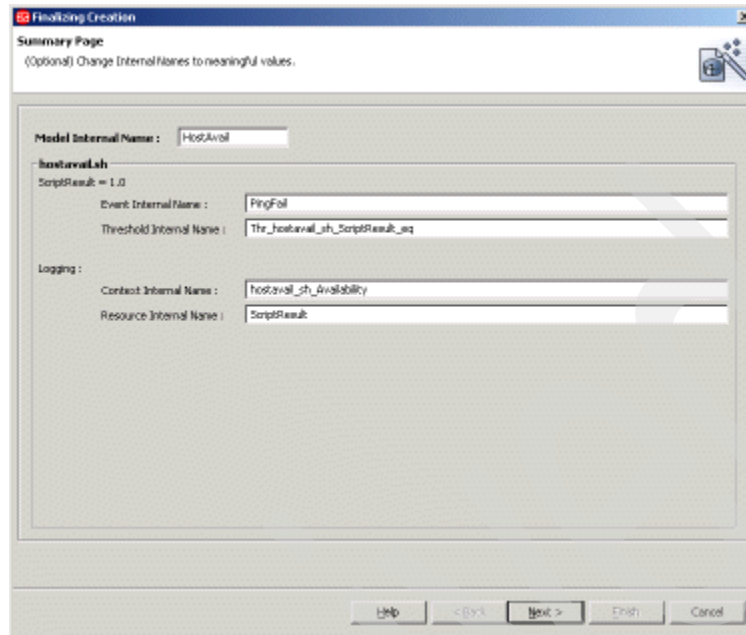

Figure 9-47 Specifying internal names
18. Enter HostAvail in the Model Internal Name text field and PingFail in the Event Internal Name text field, as shown in Figure 9-47 on page 468.